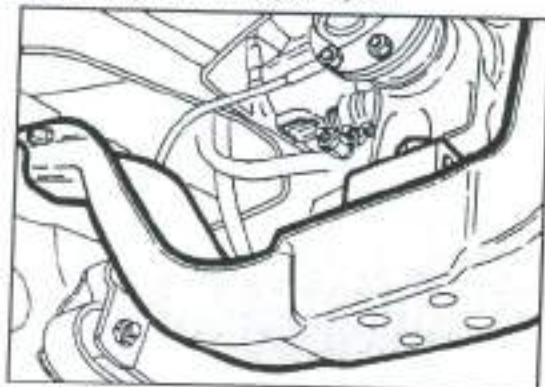

Fig. 3.3 - The crossmember must be removed in order to lower the transmission.
- Support the transmission from below in suitable manner and unscrew the crossmember, shown in Fig. 3.3.